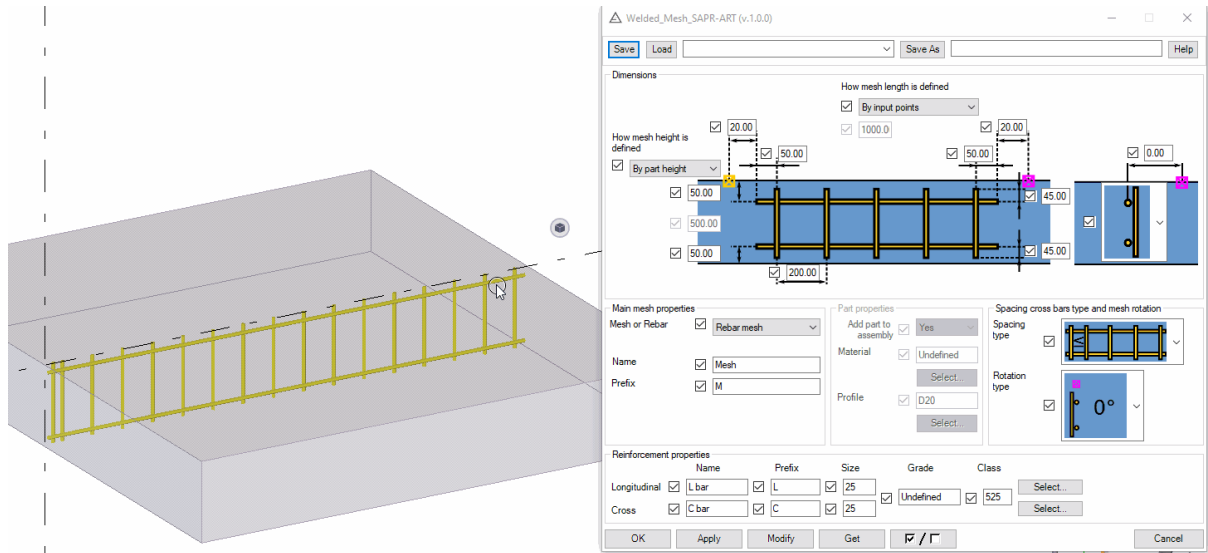

Figure 5. Modifying length of the mesh
- Length of the mesh. It is possible to set length by two different ways by two input points or by length (see figure 5)